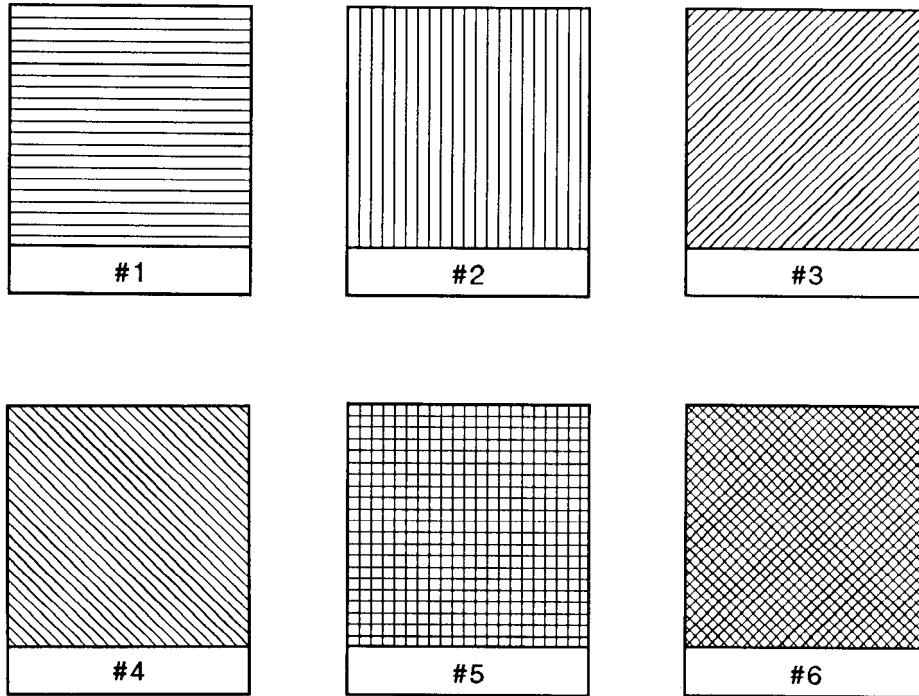

Figure 101. Patterns for Fill Type 21
Additional fill types (21 and 22) are imported from PCL or HP RTL. *Fill_type* 21 selects a PCL or HP RTL predefined patterned fill. *Option1* specifies a pattern type from 1 to 6 (see Figure 101). *Option2* is ignored. *Fill_type* 22 uses the PCL or HP RTL user-defined fill specified by **ESC*c#W**. *Option1* is the PCL or HP RTL ID of the user-defined fill. *Option2* is ignored. An invalid *option1* (for example, where the pattern has been deleted), prints a solid fill in the current color.
5. For *fill_type* 21, which is only available with devices that support the dual-context extension, the predefined pattern fill is imported from PCL or HP RTL. *Option1* specifies the pattern type, using a value from 1 to 6 as shown in Figure 101.